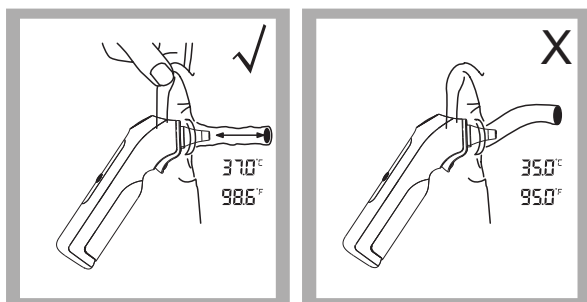

Figure 4
- Insert the probe along the ear canal as deep as possible into the ear as depicted in Figure 4. Then press the **Test BUTTON** once to start the measurement. A long beep will sound approximately 1 second after the **Test BUTTON** is activated. This signals the end of the process as results are displayed on the LCD screen.